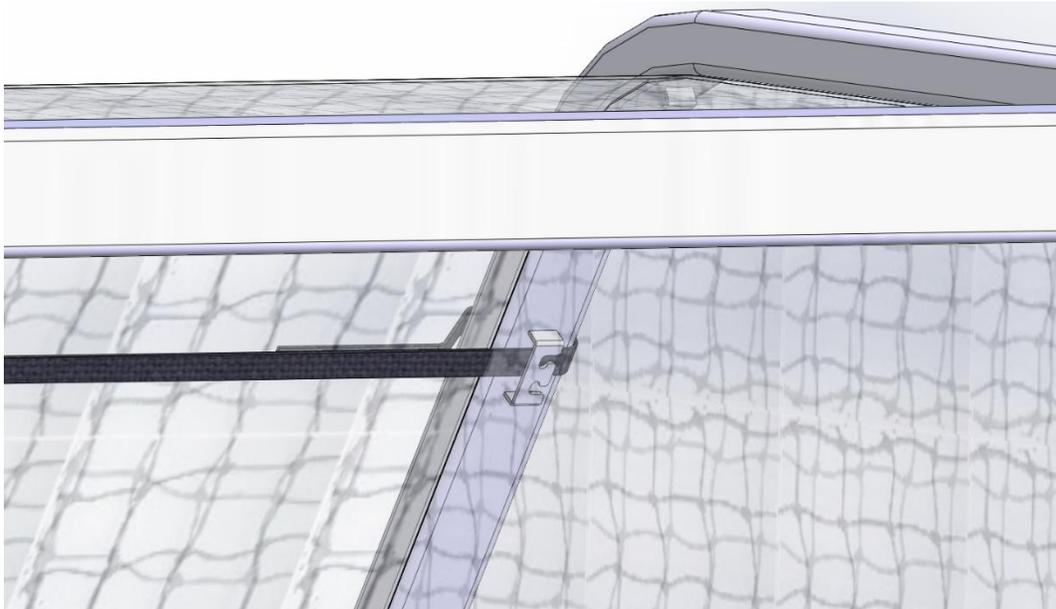

Figure 7
7. Install the goal strap from the inside of the goal. Route the strap through the goal clip as shown below (Figure 7) and loop the strap around the goal frame securing the strap to itself. Stretch the goal strap to the other side of the goal and attach as previously done.